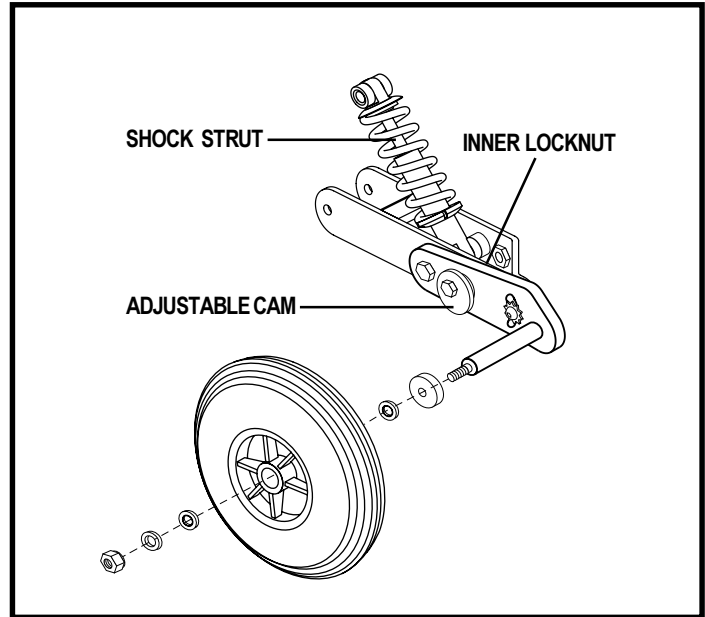

Figure 16. Anti-Tip Wheel Assembly
1. Place a 1/2-in. wrench on the inner locknut of the anti-tip bracket located in front of the shock strut. See figure 16.